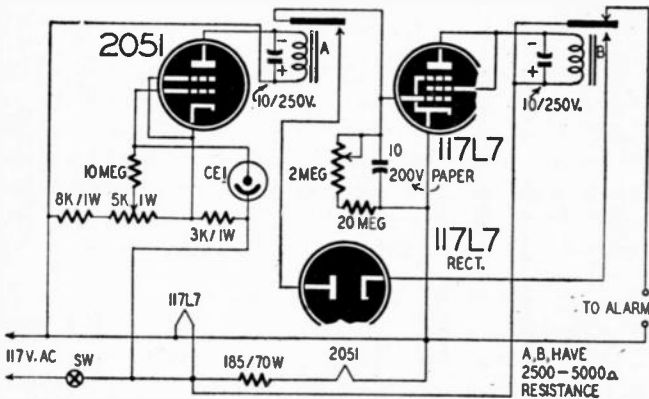

Fig. 701
A. The circuit shown in Fig. 701 should meet your specifications. When the light rays to the CE 1 phototube are interrupted, the bias is removed from the 2051, causing it to conduct current and close